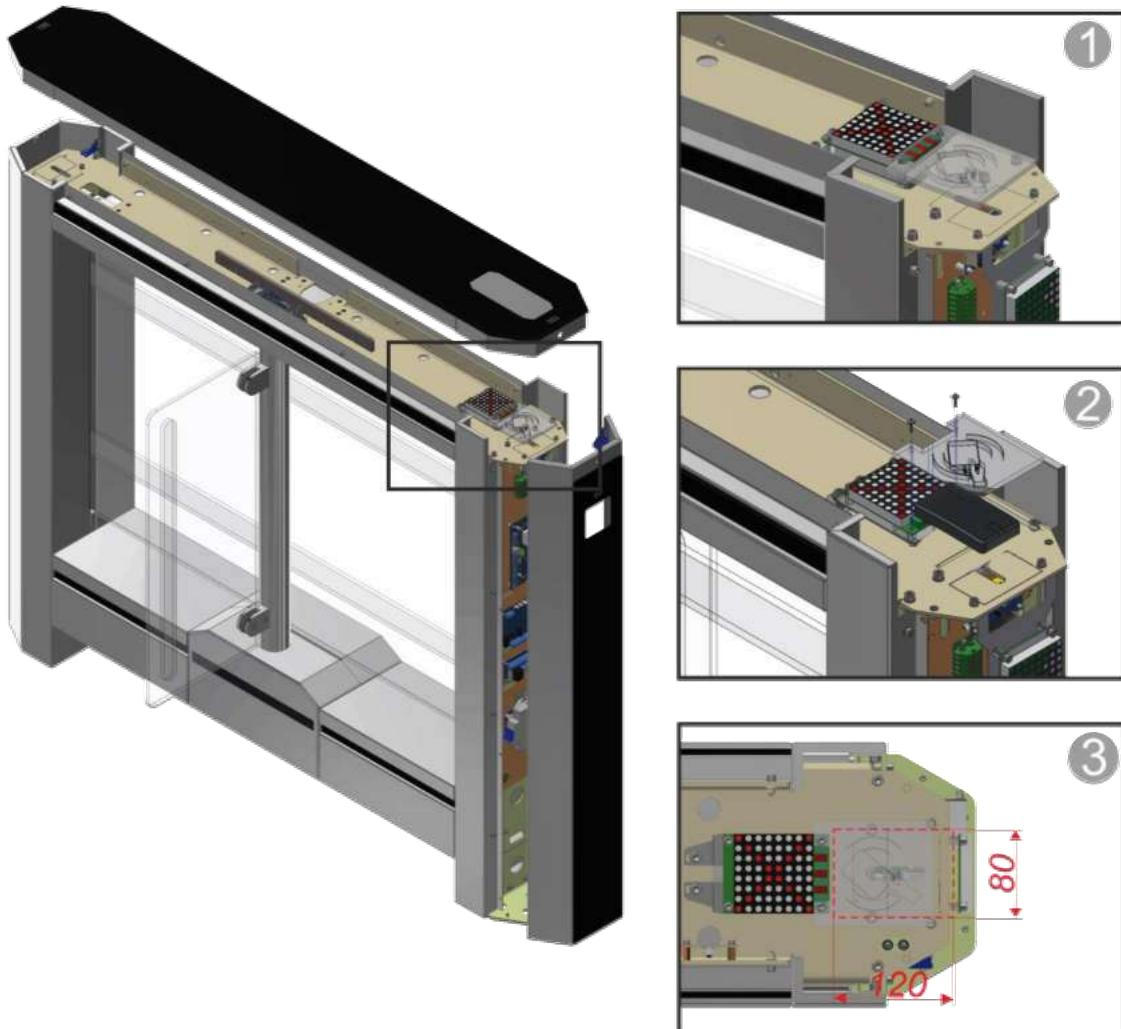

Fig.23 – Installation of card reader into the turnstile cabinet
- The turnstile lid **b** (or glass top) to be removed by unscrewing screws **a** from frame (Fig.23);